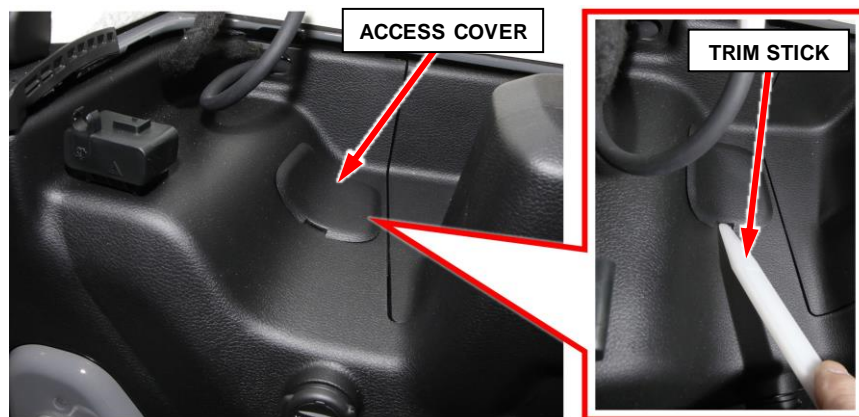

Figure 2 – Tail Lamp Bolt Access Cover
4. Using a trim stick, remove the tail lamp bolt access cover (Figure 2).
14. Install the access cover over the tail lamp bolt and make sure it is engaged securely (Figure 2).